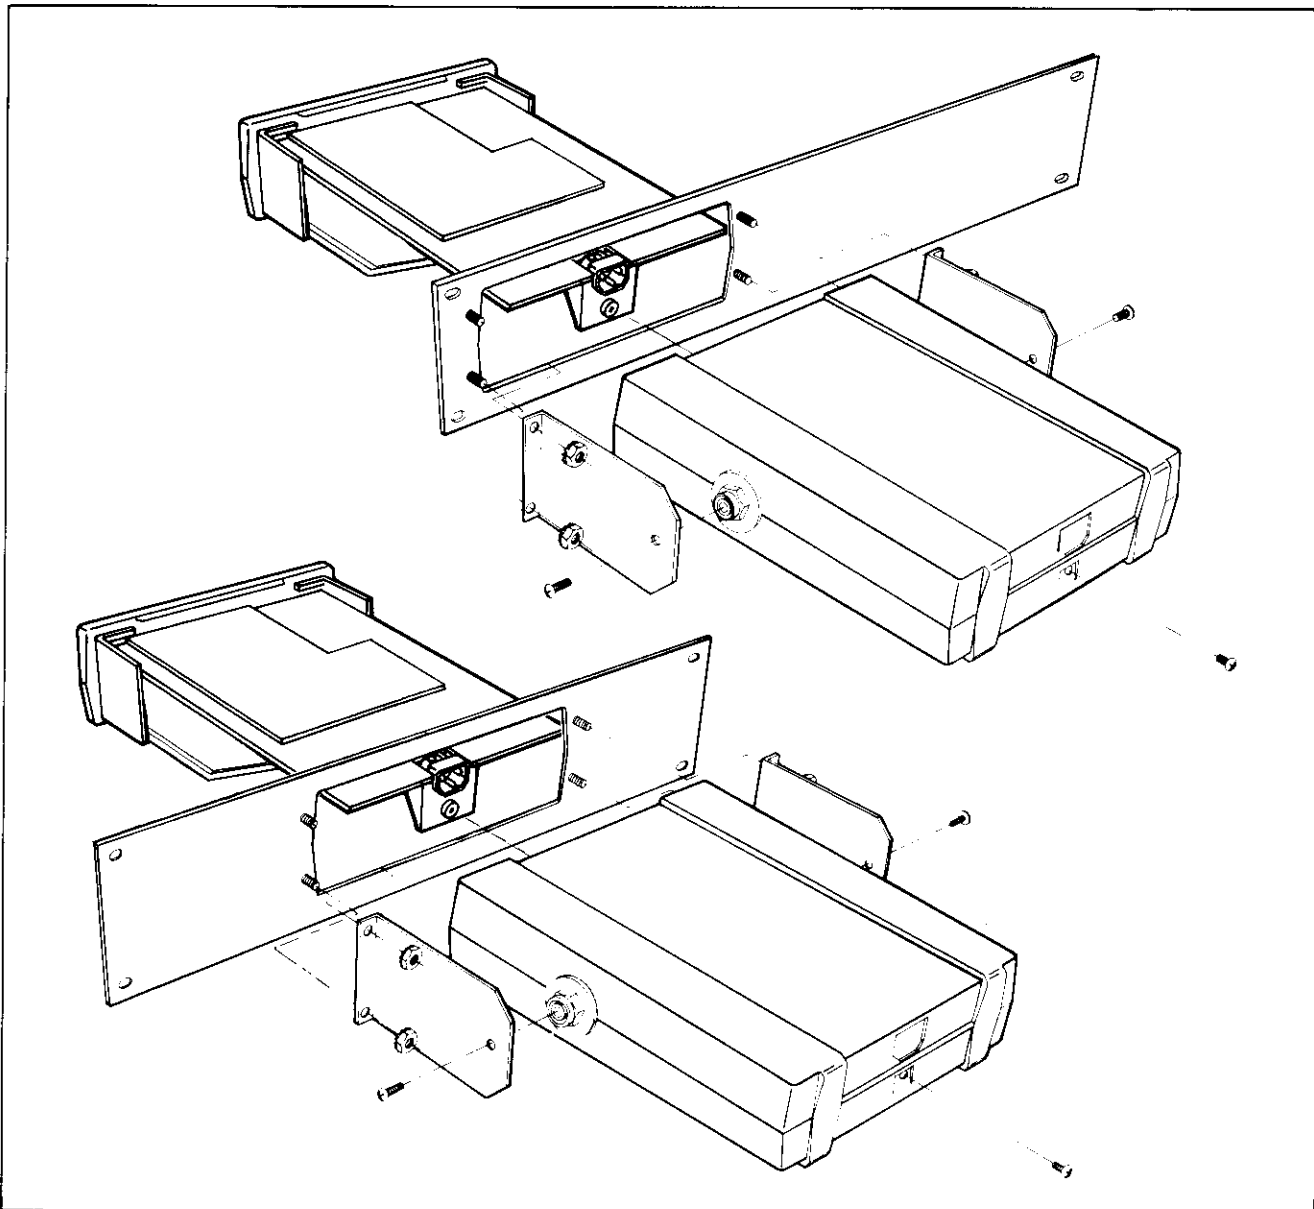

Figure 600-3. Rack Mounting Kits, Offset and Center Mounting
3. Install the side mounting brackets, as shown in Figure 600-3, and secure them to the mounting panel using the nuts provided.